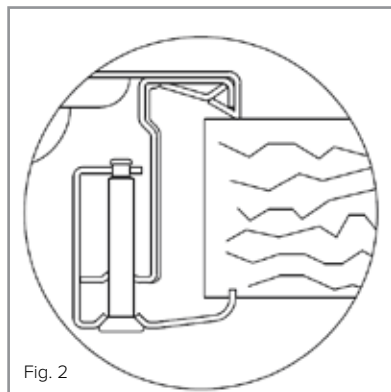

Fig. 2
- After positioning the sink on the worktop, position the fixing brackets as shown in Fig. 2, then tighten their screws.